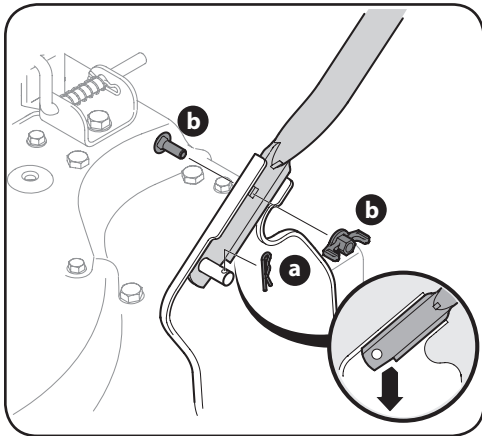

Figure 3-1
- Place the bottom holes in lower handle over the pins on the handle brackets with notch in handle pointing downwards and secure with hairpin clips. See Figure 3-1.
- Insert carriage screws through upper hole in lower handle from the inside and secure with wing nuts. See Figure 3-1.